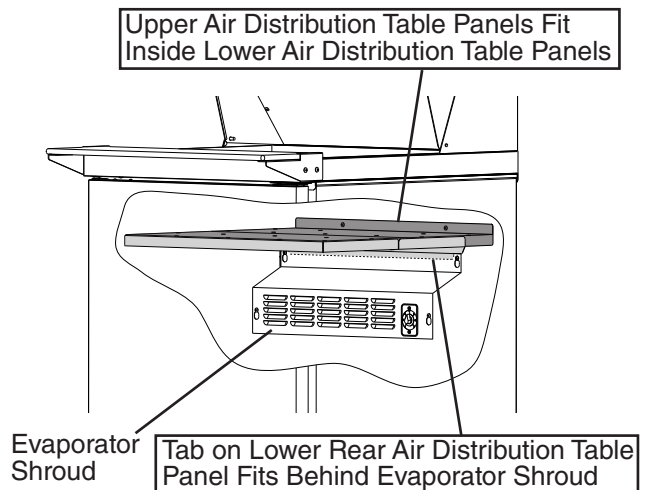

Fig. 15
- 8) Replace the air distribution table panels in their correct positions. See Fig. 15.